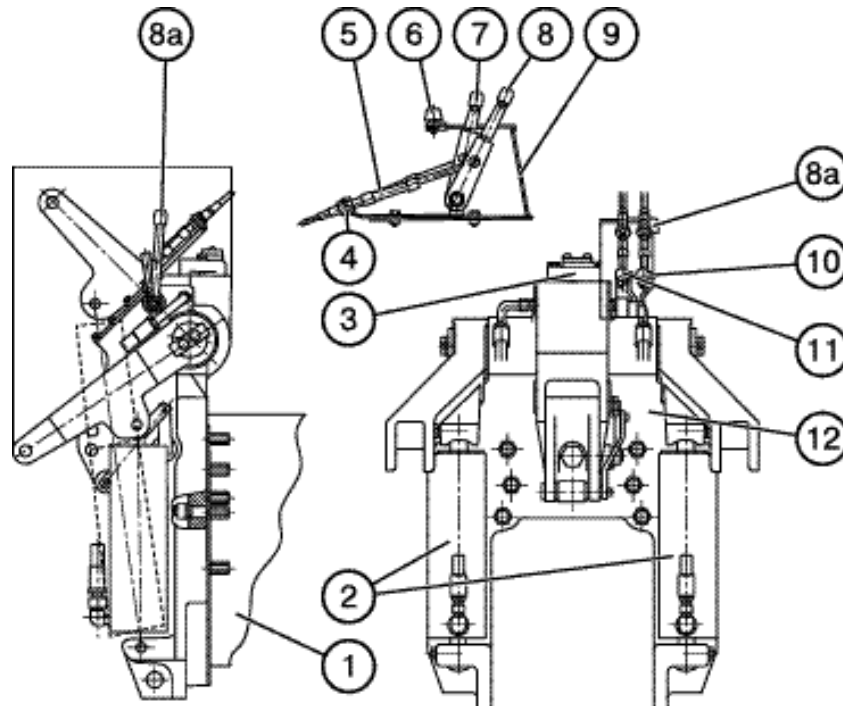
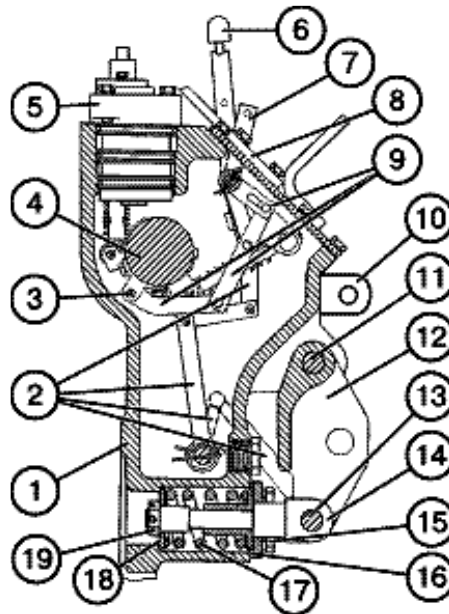

Fig.E-29. Hydraulic power lift of the HLL (monoblock):
Fig.. E-30. Hydraulic power lift construction:
The **operating controls** of the hydraulic system (7), (8) (Fig. E-29) are located in the tractor cab, with the exception of the pump engagement handle (the design is
left unchanged) and additional position control handle (8a) (Fig. E-29) located on the rear of the tractor on the hydraulic power lift.
The **draft control handle** (7) (Fig. E-29) is located on the right-hand control panel (9), the first from the operator's seat. The operational range of the handle positions is marked with digits from 1 to 9 that corresponds to the entire span of ploughing depths from minimal to maximal ones, respectively.
The **position control handle** (8) (Fig. E-29) is located next to the draft control handle (7). Its operating range is marked with the same digits which cover RHL positions from the upper transport position down to the lowermost position, respectively.
The **additional position control handle** (8a) (Fig. E-29) is located on the rear of the tractor on the hydraulic power lift. Pulling this handle towards the operator standing behind the tractor and looking along the tractor forward travel lifts the RHL and pushing the same from the operator lowers the RHL.
### Hydraulic Power Lift (Fig. E-29, E-30)
The hydraulic power lift (Fig. E-29) is installed on studs, on the rear wall of the rear axle casing (1) and consists of a control unit and a regulator-distributor (3) built
The control unit is mounted in the monoblock (1) (Fig. E-30) and consists of a position sensor in the form of a bracket attached to shaft (4) of the RHL lift levers (10); draft sensor involving the coupling link (12) mounted on axle (11) in the monoblock (1) and coupled with rod (14) on pin (13). The spring (17) pre-loaded by the nut (19) is fitted on the rod (14). Through a leverage system (9) the position sensor (3) is connected to position handle (6). The pin (13) of the rod (14) is coupled with draft handle (7) through leverage (2).
**When the position control is used**, the draft handle (7) (Fig. E-30) should be shifted to its foremost position, in the direction of the tractor forward travel. Further control of the hitch linkage is achieved by means of the hitch linkage is achieved by means of the position lever (6) (Fig. E-30) and handle (7) via ropes (5) (Fig. E-29). When moving the lever (6) backward, the hitch linkage is lifted and then moving the lever (6) forward, the hitch linkage is lowered. This adjusting process is performed by means of the regulator-distributor built in the monoblock (1) and controlled by means of the position sensor (3).
**When the draft control is used**, the position handle (6) should be shifted to its foremost position, in the direction of the tractor forward travel, corresponding to the bottom position of hitch drop links. The draft control handle (7) is set to the required ploughing depth; further the process of adjustment is fulfilled by the built-in regulator-distributor (5) under control of the draft sensor.
Using the position control handle (8) (Fig. E-29) for limiting the ploughing depth when operating in the draft control mode makes it possible to achieve the **combination adjustment**.
The hydraulic power lift drive (Fig. E-29) consists of a bracket (4) with the draft (7) and position (8) handles mounted on it. The latter are connected to the draft (11) and position (10) levers, respectively, by means of two-way ropes (5). The control levers are locked by spring-loaded friction disks.